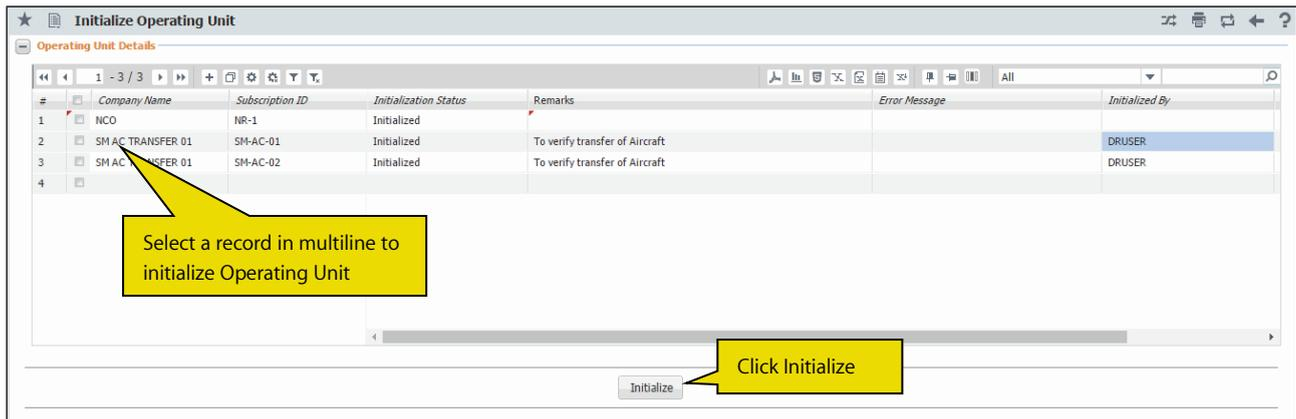

Figure 2.7 Initializing operating unit
1. Select the Initialize Operating Unit activity under the Central Data Replication Configurator business component. The **Initialize Operating Unit** page appears. See *Figure 2.7*.